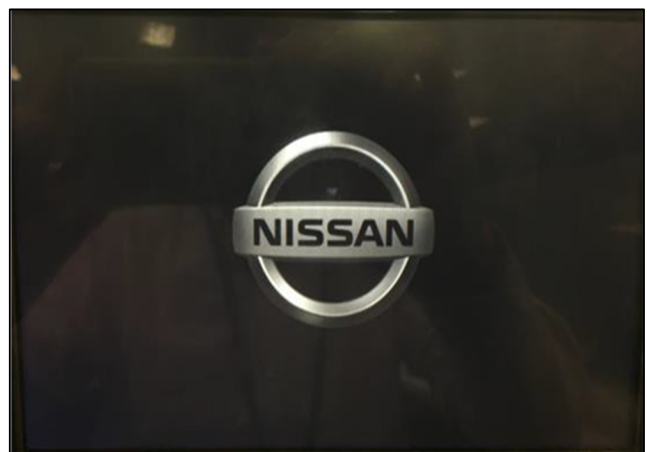

Figure 18
- The Nissan logo will be displayed during the reboot (Figure 18).